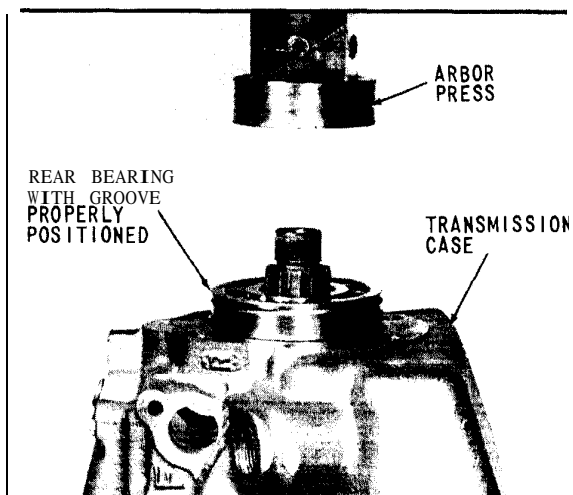

Fig. 28 Rear Bearing Properly Positioned on Transmission Case
11. With the groove on the outside diameter of the bearing located toward the rear of the transmission, as shown in (Fig. 28), place the bearing over the projecting output shaft and squarely in the bearing bore.